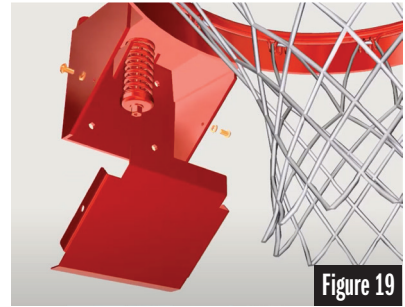

Figure 19
STEP 11: Remove the Rim Cover Plate from the underside of the Rim (Part I). See Figure 19.